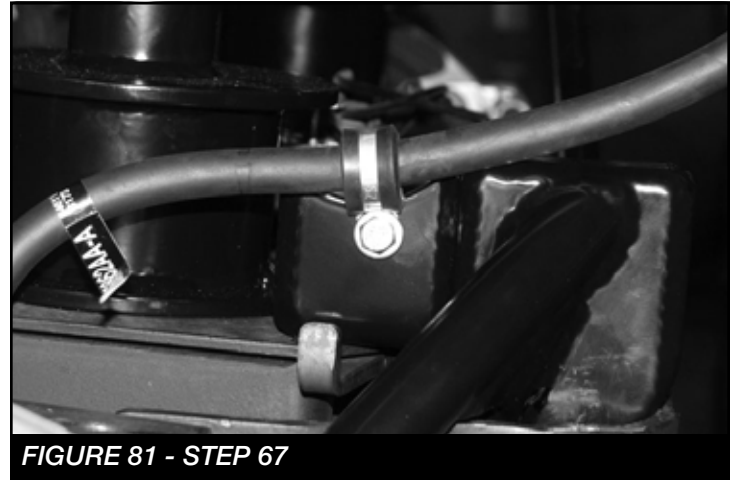

FIGURE 81 - STEP 67
67. Locate the supplied 1/4"-20x 1" bolt, nut, washers and FTCLAMP-LB10 rubber cushioned clamp and install on the rear axle breather tube, mounting it to the hole provided on the new track bar bracket. Torque to 14 ft-lbs. **SEE FIGURE 81**